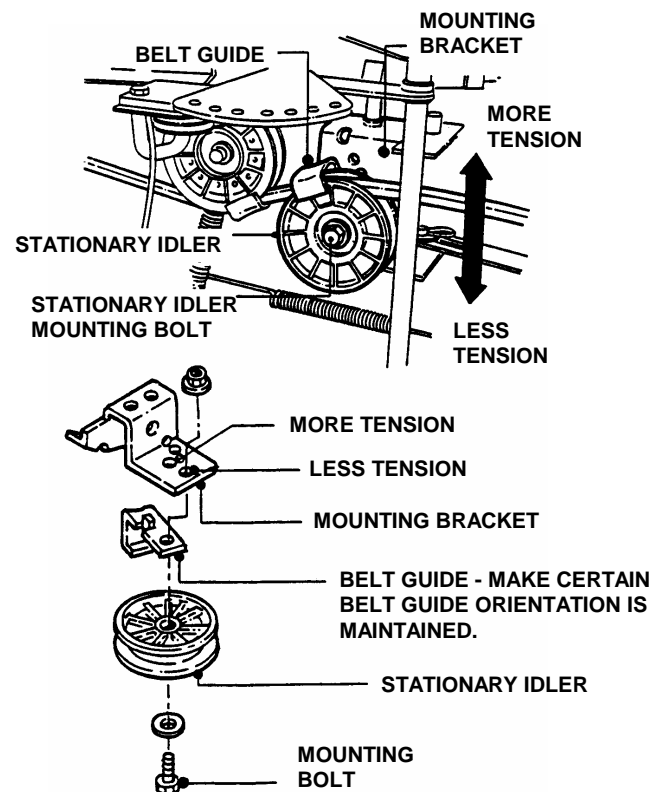

FIGURE 4.16
4. Remove the traction drive belt stationary idler mounting bolt. See Figure 4.16.
NOTE: Should less tension be required move stationary idler towards right side of tractor. See Figure 4.16.